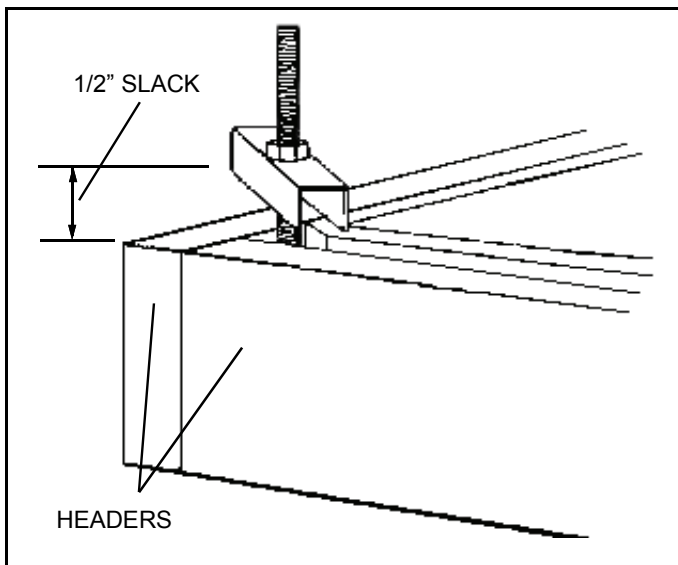

Figure 6
3. Starting at one end, slide a joist hanger onto the threaded rod and thread nut down until there is only about 1/2" slack. **Do not tighten fully.** Turn joist hanger at a 45 degree angle to span the frame corner. Figure 6. Repeat the process until all hangers are installed. With hangers holding stair in place, helpers can let go.